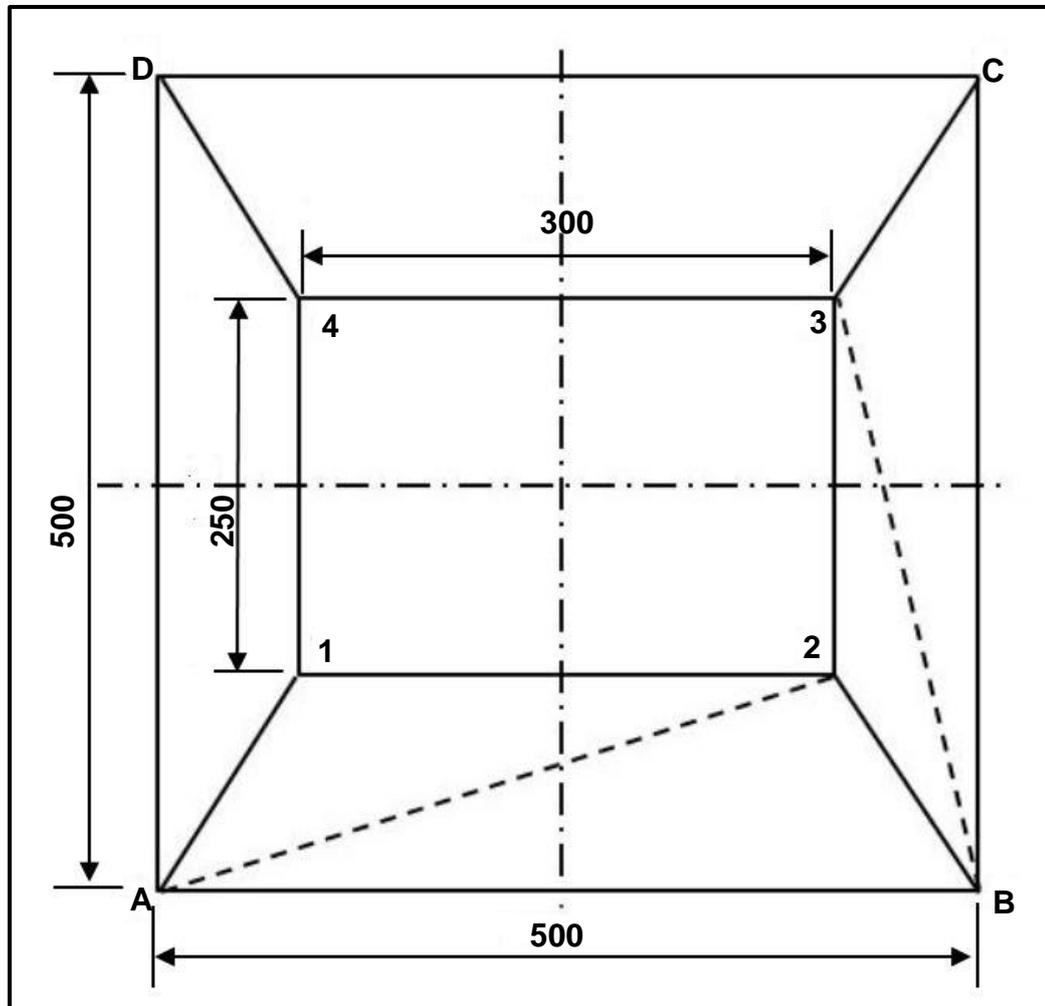

FIGURE 11.1
11.1 FIGURE 11.1 below shows the top view of a hopper with a vertical height (VH) of 450 mm. Answer the questions that follow.
- 11.1.1 Identify the hopper in FIGURE 11.1. (3)